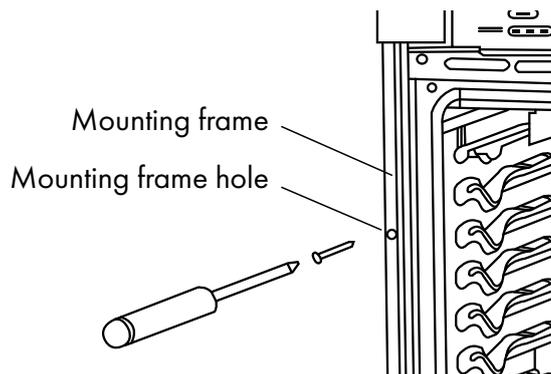

Figure 1
2. By hand, feed the flexible electrical supply conduit from the oven to the junction box (Figure 1).
3. Insert the four #8–14 x 1" screws (provided) through the pilot holes to securely fasten the upper and lower ovens to the cabinet (Figure 1). Do not overtighten screws.